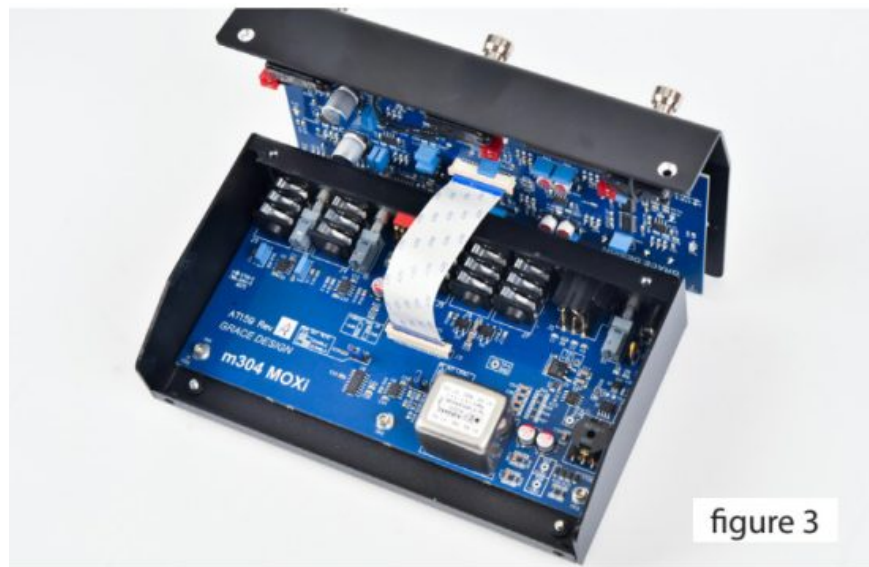

figure 3
4. You will notice a ribbon cable which attaches the top and bottom PC boards – **BE SURE** not to put any strain on this cable and its connectors. You will be able to gently lift the top of the chassis upright and rest it directly behind the bottom chassis, as shown in figure 3.